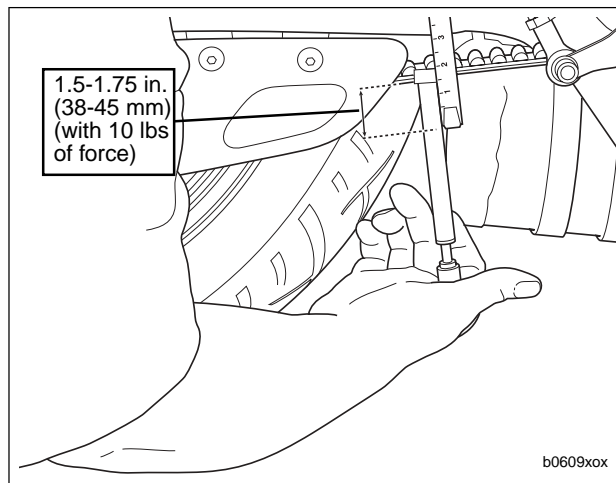

Figure 1-21. Belt Deflection
4. See Figure 1-21. Apply 10 lbs of force using BELT TENSION GAUGE (Part No. HD-35381) at the midpoint of the belt's bottom strand. The deflection should be upward as shown.